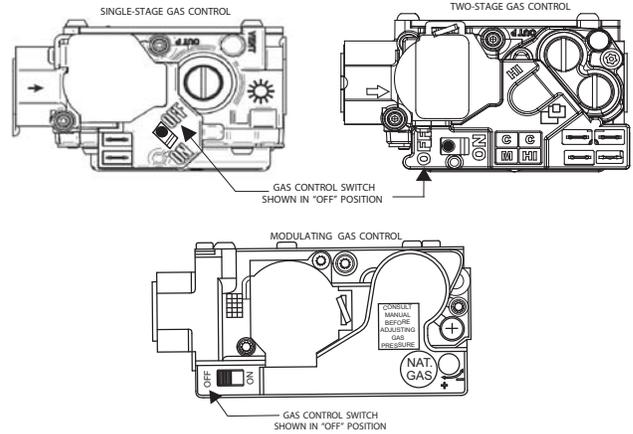

Fig. 11 – Control Switch to OFF
5. Turn the control switch on the gas control to the OFF position and wait five minutes. See Fig. 11. Then smell for gas, including near the floor. If you smell gas, STOP! Follow “B” on furnace label. If you don’t smell gas, go to next step.
5. Turn control switch on the gas control to “OFF” position. See Fig. 11.